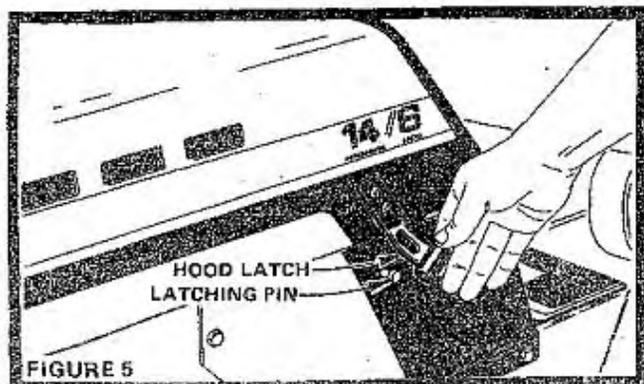

FIGURE 5
5. Close Hood securely by stretching Hood Latches over Latching Pins (Fig. 5).